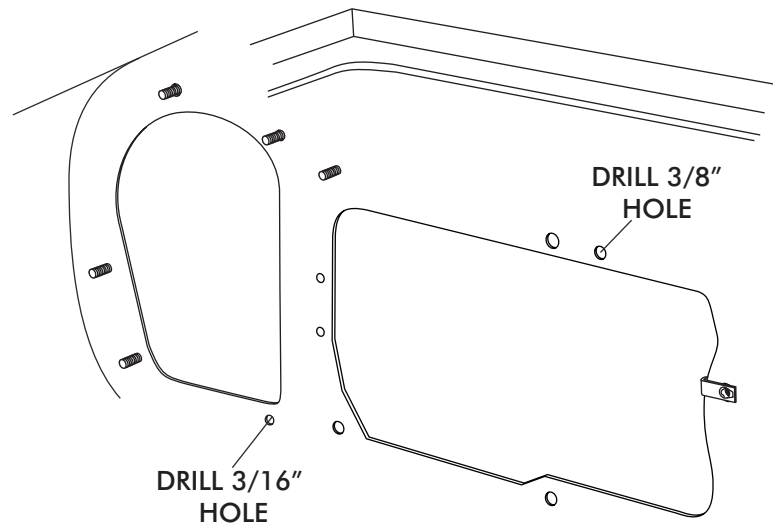

FIGURE 5a
- DRILL HOLES AS SHOWN BELOW IN FIGURE 5a.